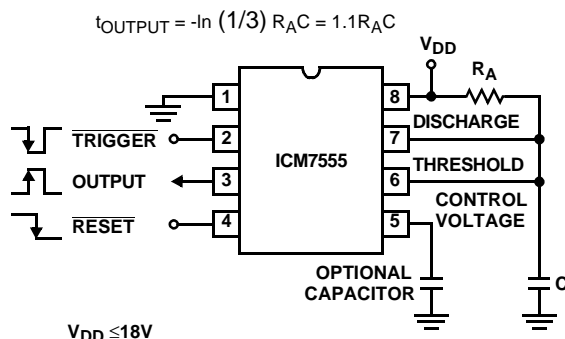

FIGURE 3. MONOSTABLE OPERATION
In this mode of operation, the timer functions as a one-shot, see Figure 3. Initially the external capacitor (C) is held discharged by a transistor inside the timer. Upon application of a negative TRIGGER pulse to pin 2, the internal flip-flop is set which releases the short circuit across the external capacitor and drives the OUTPUT high. The voltage across the capacitor now increases exponentially with a time constant $t = R_A C$. When the voltage across the capacitor equals $\frac{2}{3} V+$, the comparator resets the flip-flop, which in turn discharges the capacitor rapidly and also drives the OUTPUT to its low state. TRIGGER must return to a high state before the OUTPUT can return to a low state.